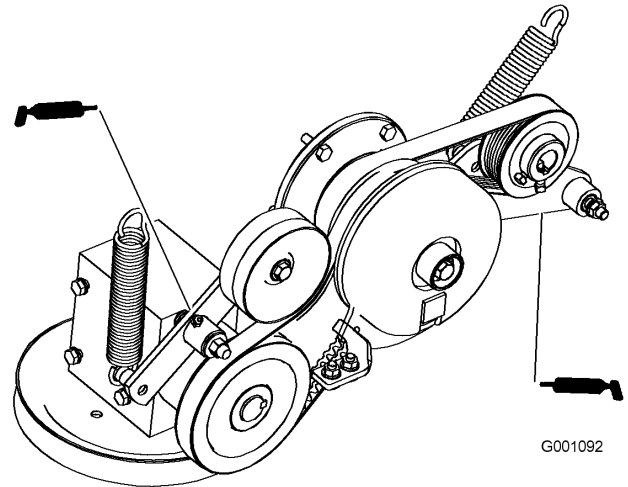

Figure 30
7. Grease the PTO drive belt idler arm (Figure 30).
8. Grease the pump belt idler arm (Figure 30).